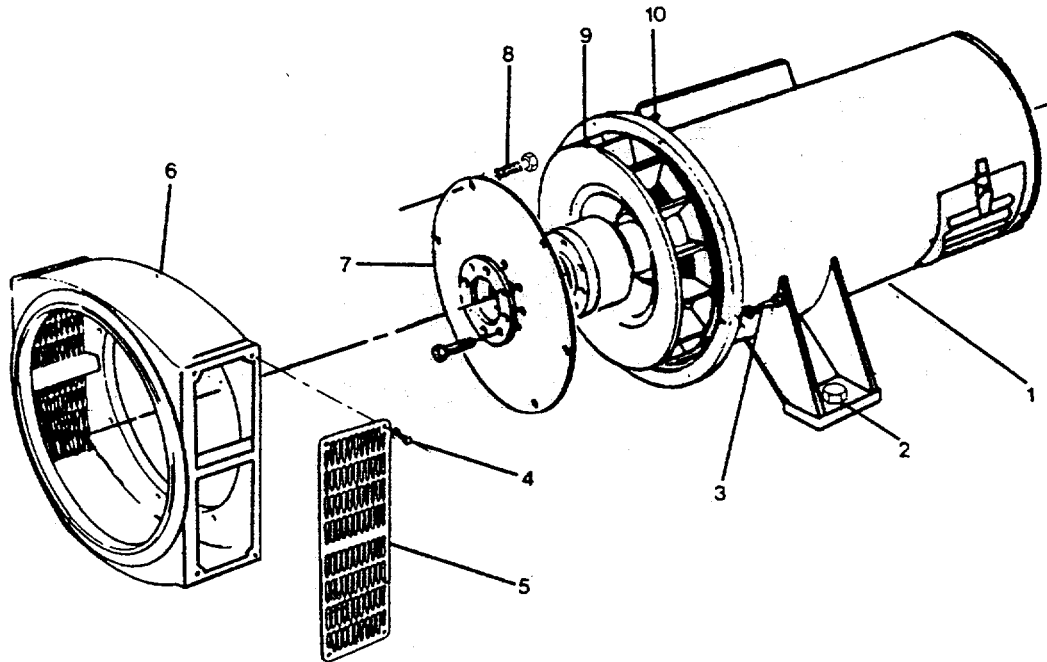

FIGURE 3-8. *Generator Coupling and Housing.*
- f. Remove screws (4, Figure 3-8) and weather screens (5) from each side of the housing (6).
- g. Attach a suitable hoist to the generator lifting bracket (10).
- h. Remove the mounting bolts (2) securing the generator to the subbase.
- i. Remove the capscrews (8) securing flex discs (7) to the flywheel of the engine.
- j. Remove the capscrews (3) securing the generator to the housing (6).
- e. Install the capscrews (8, Figure 3-8) with hardened washers through the discs into the flywheel. Do not use lockwashers. Do not tighten capscrews.
- f. Install capscrews (3, Figure 3-8) with lockwashers through the generator housing adapter into the flywheel housing. Do not tighten.
- h. Tighten the eight housing capscrews (3, Figure 3-8) to 50 ft-lb (65 N•m) torque. Tighten in the sequence shown in Figure 3-9.
- i. Tighten the six flywheel coupling capscrews (8, Figure 3-8) to 352 ft-lb (476 N•m). Tighten in the sequence shown in Figure 3-10.
- (1) Insert a .010 inch (.254 mm) feeler gauge between the exciter rotor and the exciter stator.
- (2) Run the feeler gauge around the rotor.
- (3) Gap must be at least .010 inch (.254 mm) all the way around the rotor.
- (4) If the gap is less than .010 inch on any side, the generator must be realigned.
- r. Install the weather screens (5, Figure 3-8) to each side of the housing (6) with screws (4).